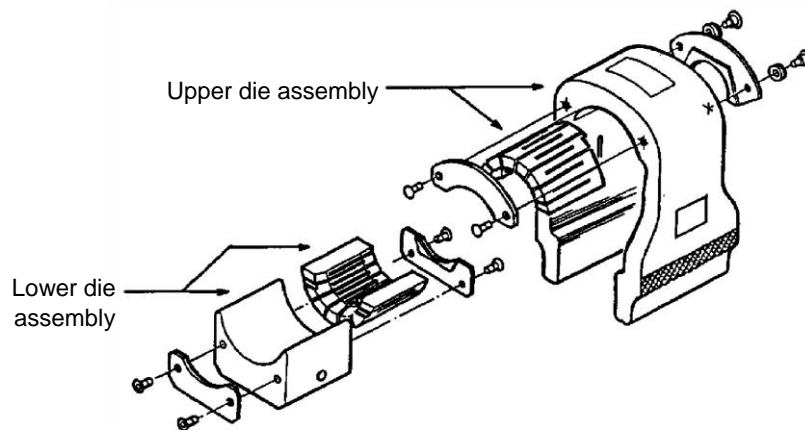

Figure 5. Upper and Lower Die Assemblies
Step 3. Ensure that the chamfered ends of the upper and lower die segments are installed correctly as shown in Figure 5.